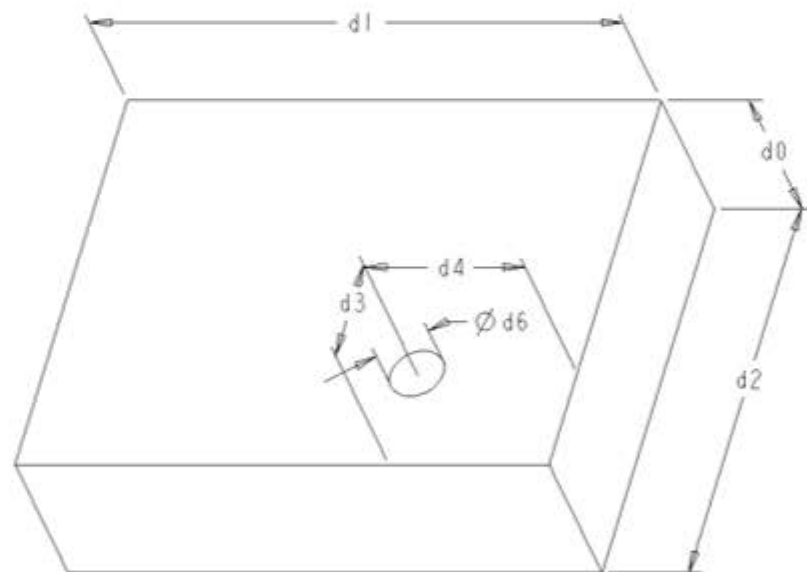

Figure 8–40
3. Which combination of equations centers the hole if the length and width are equivalent, as shown in Figure 8–40? (Select all that apply.)